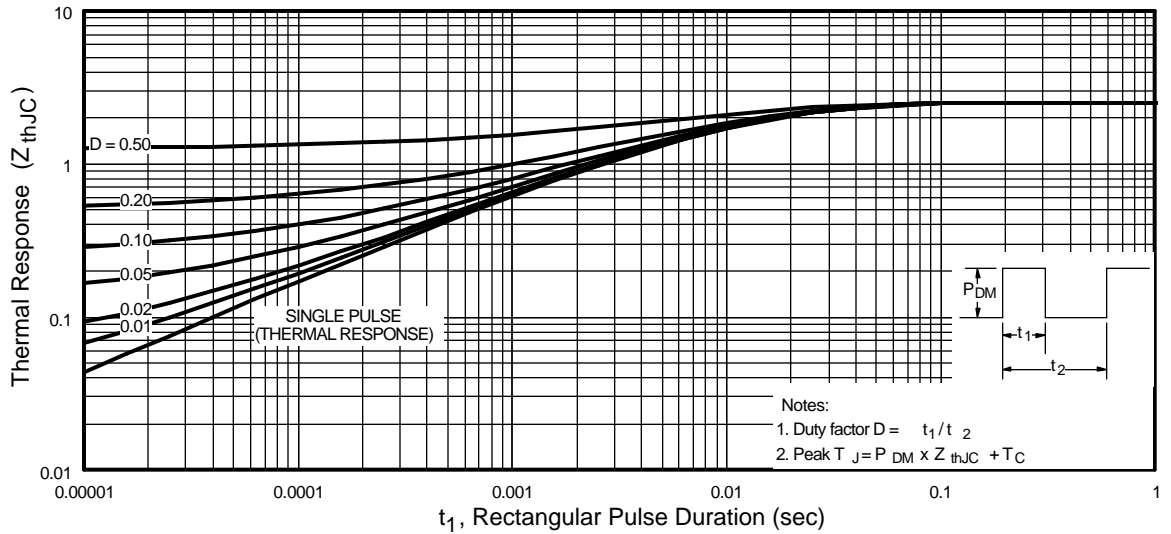

Fig 11. Maximum Effective Transient Thermal Impedance, Junction-to-Case
- ① Repetitive rating; pulse width limited by max. junction temperature. (See fig. 11)
- ② Starting $T_J = 25^\circ\text{C}$, $L = 57\text{mH}$